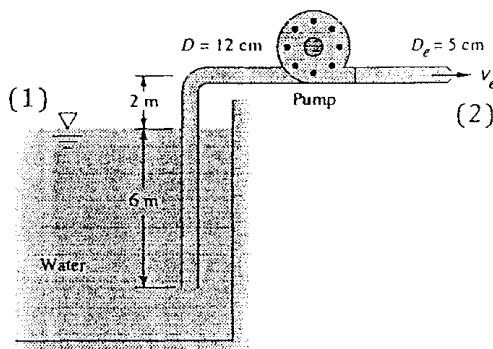

Fig. P3.130
**3.130** When the pump in Fig. P3.130 draws  $220 \text{ m}^3/\text{h}$  of water at  $20^\circ\text{C}$  from the reservoir, the total friction head loss is 5 m. The flow discharges through a nozzle to the atmosphere. Estimate the pump power in kW delivered to the water.
**3.131** When the pump in Fig. P3.130 delivers 25 kW of power to the water, the friction head loss is 4 m. Estimate (a) the exit velocity; and (b) the flow rate.